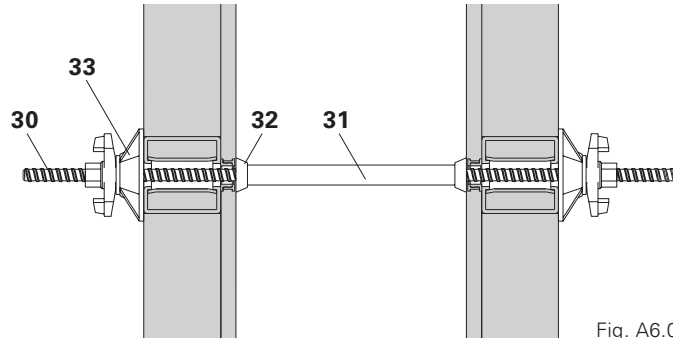

Fig. A6.01
- Tige DW 15 (30)
- Fourreau (31)
- Cône (32)
- Plaque-écrou orientable DW 15 (33) (Fig. A6.01)